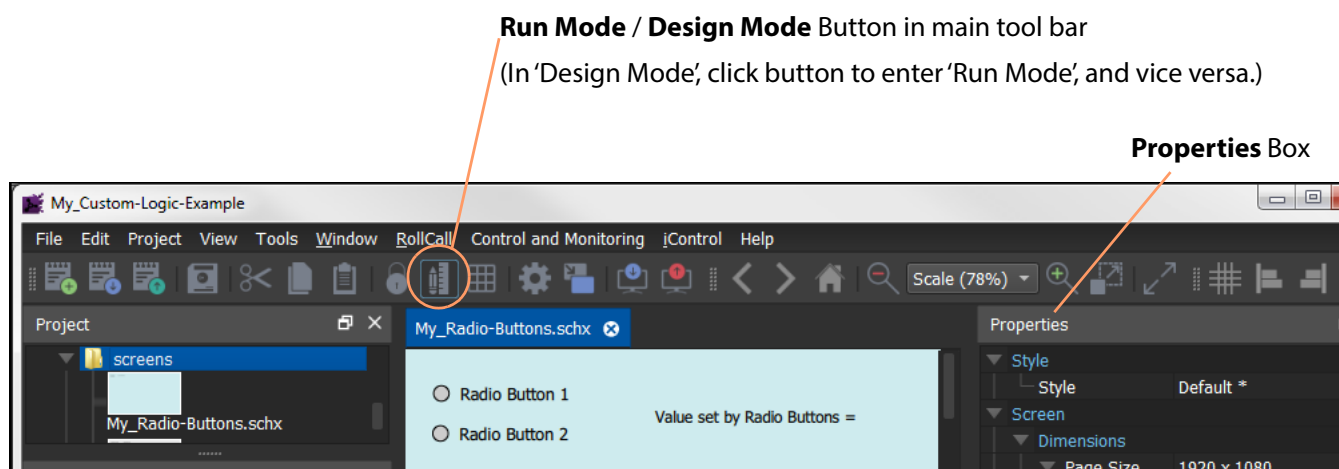

Fig. 2-29: **Run Mode / Design Mode** Button
- Click on the **Run Mode / Design Mode** button in the main menu. See Figure 2-29 and Figure 2-30.